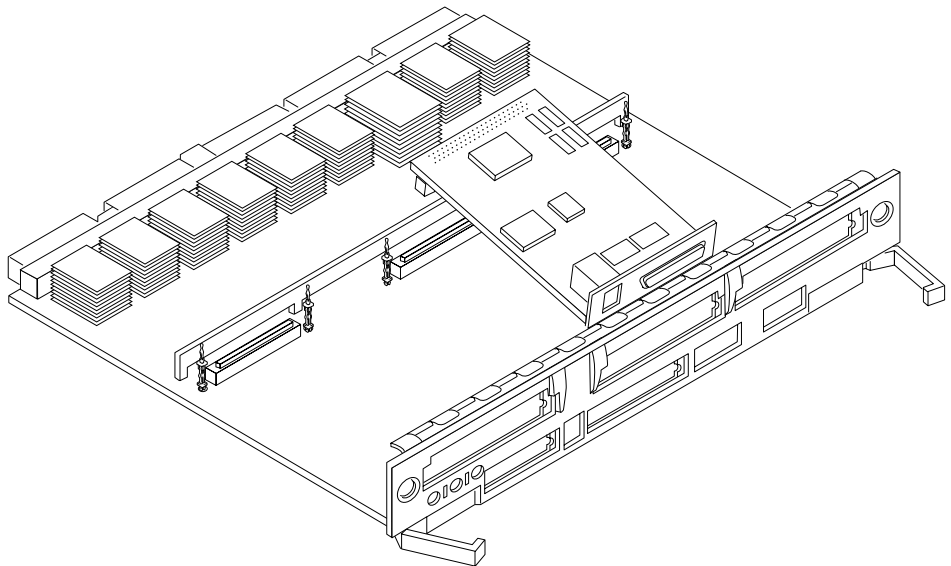

FIGURE 4-12 Removing or Installing an SBus Card
6. Lift the SBus card from the socket at an angle while guiding the face plate out from the back panel opening (FIGURE 4-12).
See FIGURE 4-12 on page 4-15